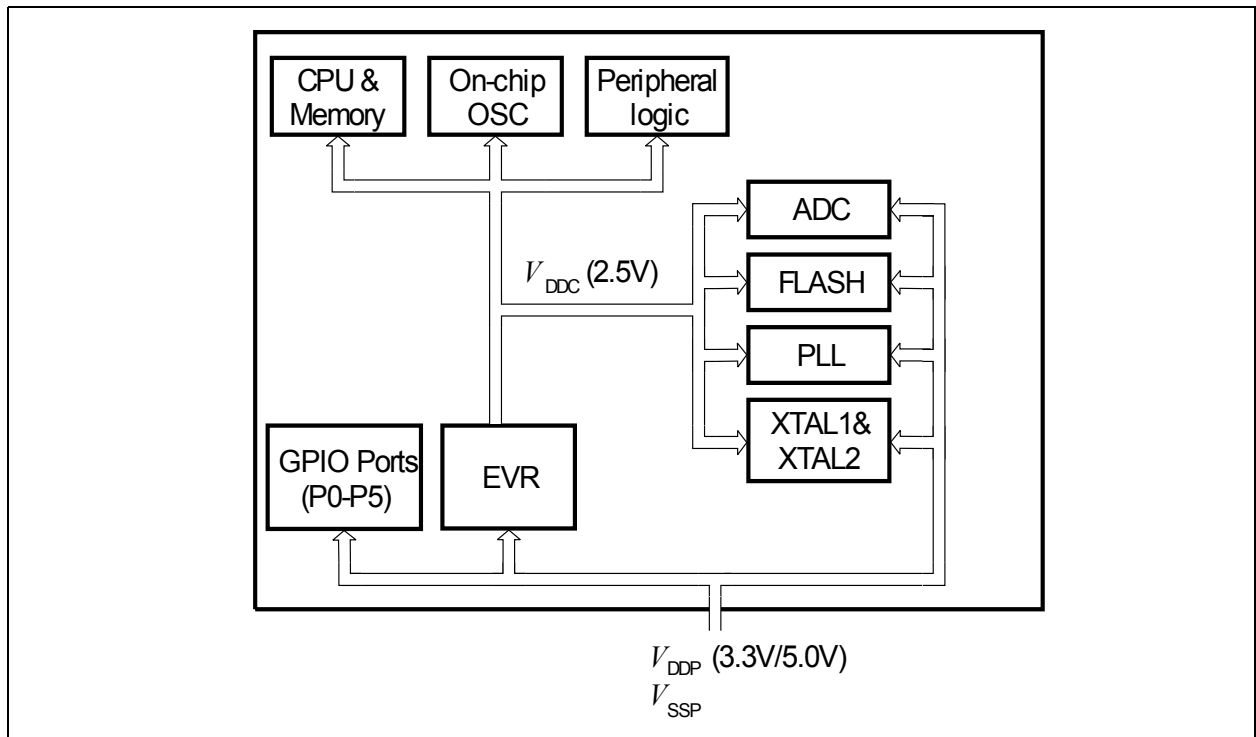

**Figure 21 XC886/888 Power Supply System**
**Figure 21** shows the XC886/888 power supply system. A power supply of 3.3 V or 5.0 V must be provided from the external power supply pin. The 2.5 V power supply for the logic is generated by the EVR. The EVR helps to reduce the power consumption of the whole chip and the complexity of the application board design.